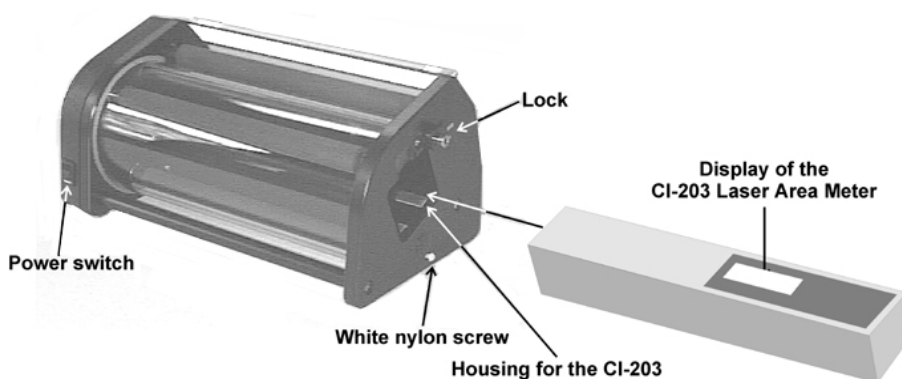

Figure 8. Insert the CI-203 into the housing (hole) in the side of the CI-203CA.
3. Press the power switch on the CI-203CA (see Figure 8) to the ON position. **Note: The CI-203/CI-203CA combination must be turned on with the switch for the CI-203CA in order to take measurements!**